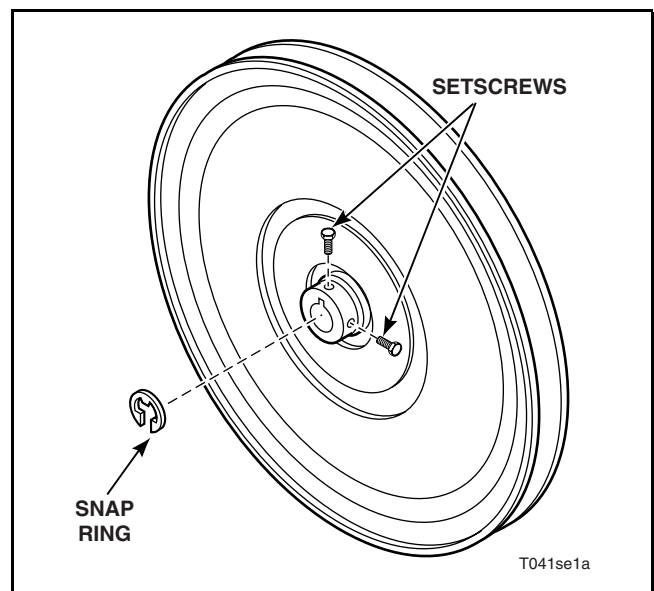

Figure 42
- Remove snap ring from idler shaft. Refer to *Figure 42*.